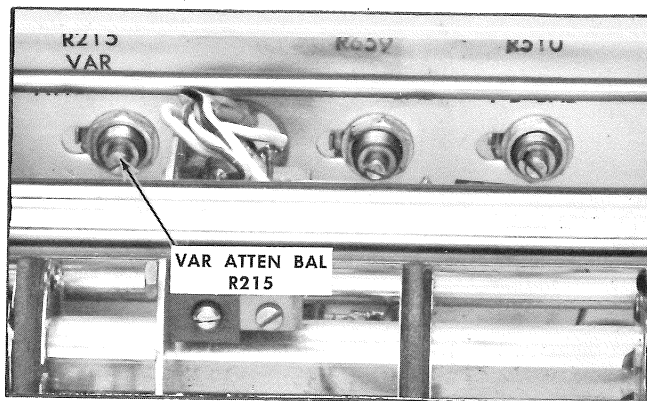

Fig. 5-5. Location of VAR ATTEN BAL adjustment, step 6.
- d. The trace should be at graticule center. If it is not, adjust the VAR ATTEN BAL R215 control (see Fig. 5-5) to over-correct in the same direction the trace shifted by 3/5 the amount of trace shift. When the VAR ATTEN BAL control is adjusted properly, the trace should be at about the same position at both ends of the VARIABLE control rotation. The trace may move from that position in the center of the VARIABLE control rotational range, but this will be corrected by performing the next step.